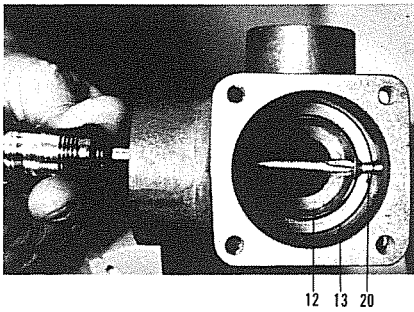

Figure 7-3, Locking sleeve into valve body with screw.
7.1.3 Install countersunk head screw (20), from inside body to lock sleeve in place. Attach on outside of body with flat washer (19), lock washer (18) and nut (17). Tighten screw so that its underside of head seats on chamber on end of installed sleeve. See Figure 7-3.